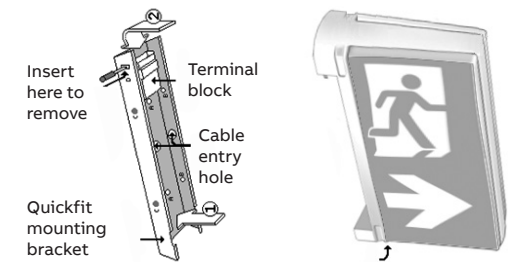

Figure 3: Quickfit vertical wall mounting
2. The exit must only be installed as per figure 3, that is, with the terminal block at the top. This is to ensure that the exit is securely held and cannot inadvertently slide out of the bracket.